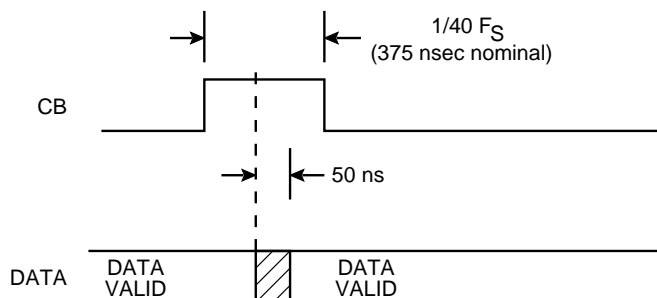

FIGURE 14. CONVERTER BUSY TIMING
The Converter Busy (CB) signal indicates that the tracking converter output angle is changing 1 LSB. As shown in FIGURE 14, output data is valid 50 ns maximum after the middle of the CB pulse. The CB pulse width is $1/40 F_s$, which is nominally 375 ns.